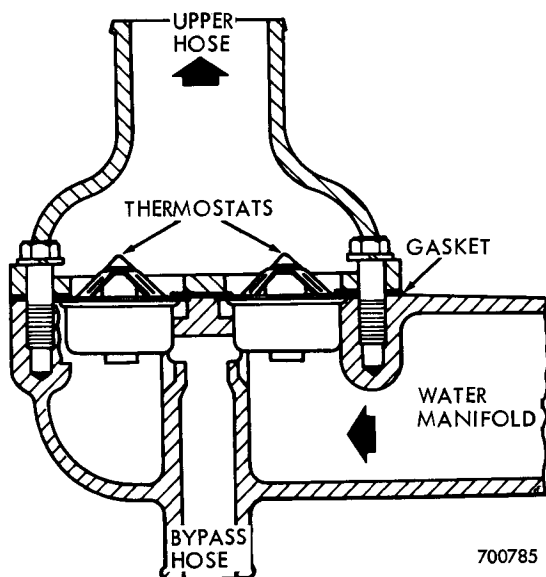

Figure 27
1. Drain the radiator to a level below the thermostats, Figure 27.